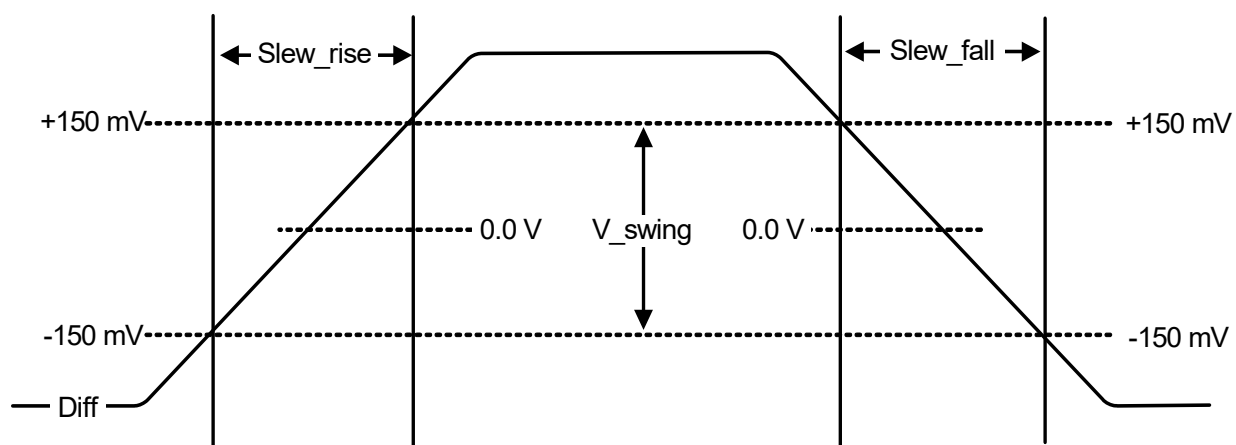

Figure 3. Measurement Points for Rise Time and Fall Time
17. V_{cross(rel)} Min and Max are derived using the following, V_{cross(rel)} Min = 0.250 + 0.5 (V_{havg} - 0.700), V_{cross(rel)} Max = 0.550 - 0.5 (0.700 - V_{havg}), (see Figures 3–4 for further clarification).